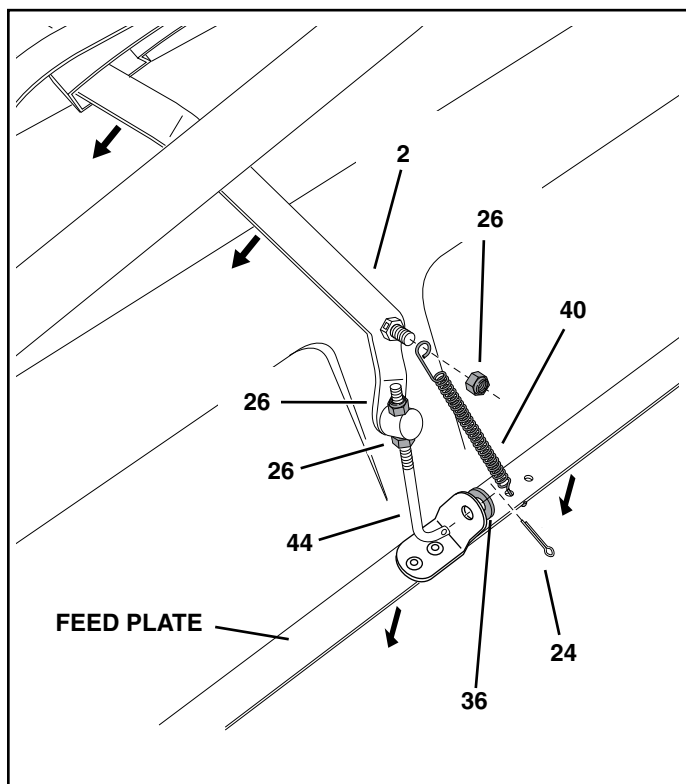

FIGURE 10
- Move the flow control lever (2) as far as it will go to the "OFF" position. Push the feed plate back as far as it will go to the closed position. See figure 10.
- Place the bent end of the flow control link (44) into the feed plate bracket and a nylon washer (36). Secure it with a 3/32" x 3/4" cotter pin (24). See figure 10.
- Tighten the lower 1/4" nylock hex nut (26) until it touches the bottom of the ferrule, then tighten the upper 1/4" nylock hex nut (26) until it is snug against the top of the ferrule. See figure 10.
- Hook the open end of the spring (40) into the feed plate. Place the closed end of the spring onto the end of the hex bolt in the flow control lever. Secure it with a 1/4" nylock hex nut (26). See figure 10.
- Open and close the feed plate using the flow control lever. Check to make sure the feed plate is closed completely when the lever is in the "OFF" position. If the feed plate does not close completely, adjust the 1/4" nylock hex nuts (26) on the flow control link (44). See figure 10.